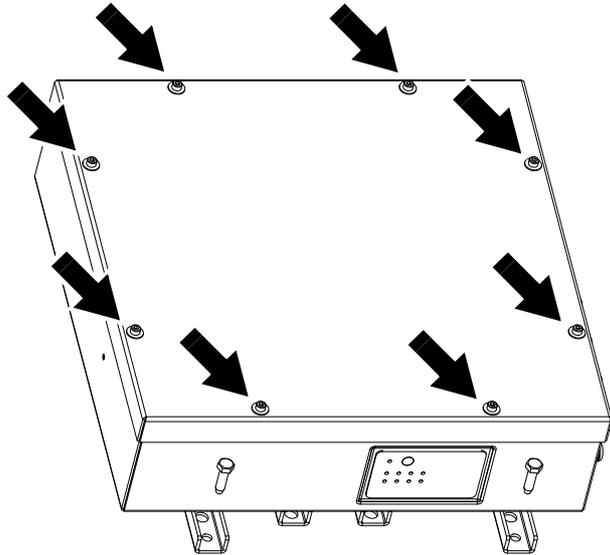

Figure 7: Cover retaining screws
2. See Figure 7. Remove the eight retaining screws from the cover and lift the cover off the housing.
2. See Figure 7 on page 12. Remove the 8 screws from the cover and open the P3 PowerPort 1000 IP.